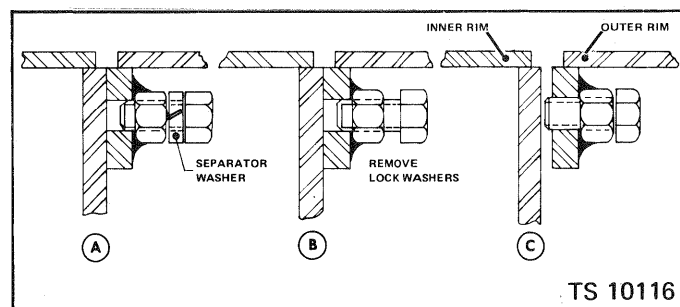

Fig. 12-2 Separator Bolt Operation
10. With the separator bolt lock washers removed, alternately thread in the separator bolts to brake the rim halves apart. Fig. 12-2.